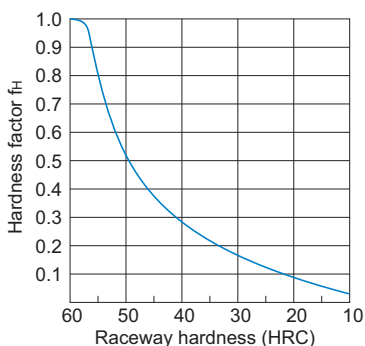

Fig.2 Hardness Factor ( $f_H$ )
- C : Basic dynamic load rating (N)
- $P_C$  : Calculated radial load (N)
- $f_H$  : Hardness factor (see Fig.2 on **A5-6**)